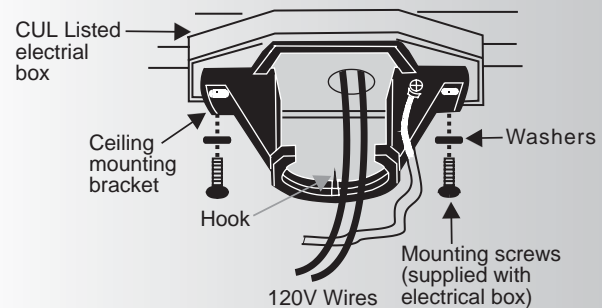

Fig. 6
Step 3. Secure the hanger bracket to the ceiling outlet box using screws and washers included with your outlet box. (Fig. 6)